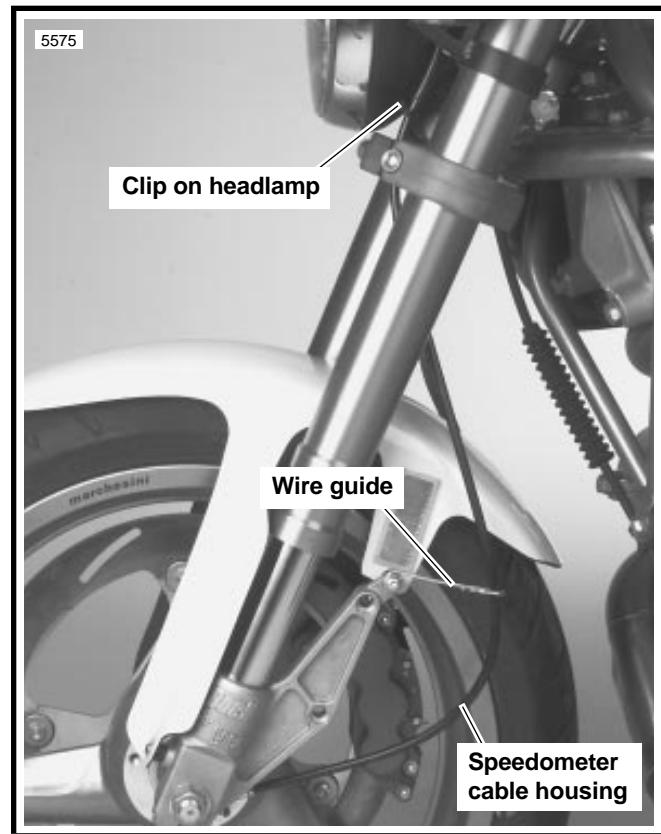

Figure 2-56. Speedometer Cable
1. See Figure 2-56. Examine speedometer cable housing (outer sheathing) for kinks or other damage. Replace entire cable assembly if any damage is noted.